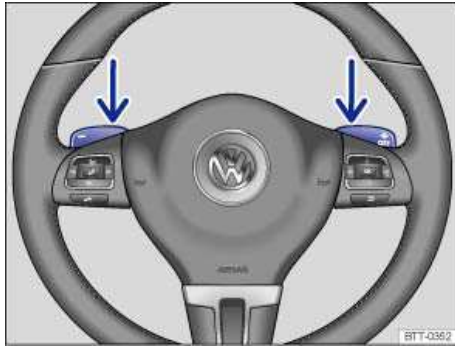

Fig. 143 Steering wheel with optional Tiptronic shift paddles.
- The paddles ⇒ fig. 143 (arrows) work when the selector lever is in the Tiptronic position or when the selector lever is in Drive (D) or Sport Drive (S). You do not have to move the selector lever over to the right into the Tiptronic position.